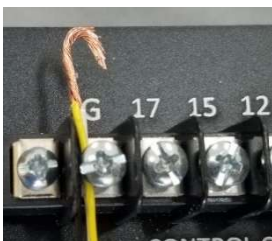

FIGURE 115
- ❑ **STEP 10.17** On controller back (**FIG. 118**), loosen GND screw "G" sufficiently to allow the 3 twisted GND wires **insulation** to pass between GND screw and body as shown in **FIG. 115**. Curl a U loop on end of GND wire as shown. Pull wire back down towards and between the GND screw and connector body as shown in **FIG. 116**. Tighten wire to body securely using Phillips screw driver on GND screw.